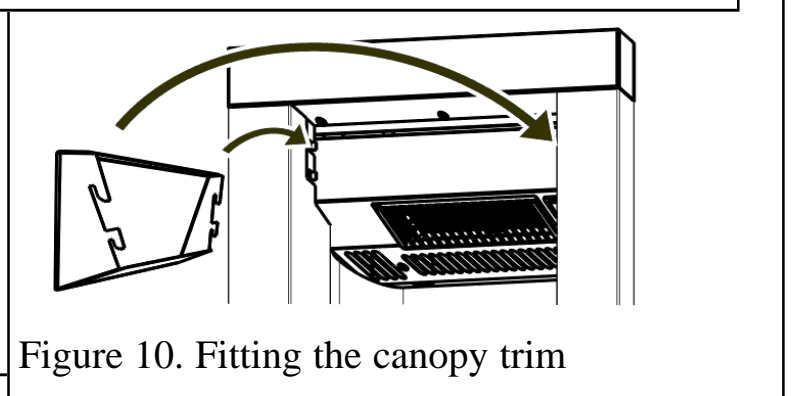

Figure 10. Fitting the canopy trim
6. Supplied in the fascia pack is a canopy trim. Hang this at the top of the fascia (See figure 10).